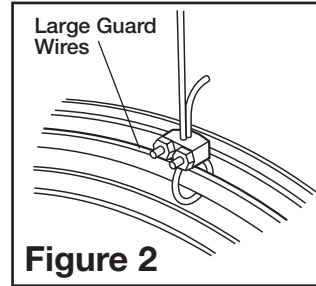

Figure 2
- Loop one end of cable around the large diameter wires of both the front and rear circulator guard (Figure 2).
- Attach a cable clamp with the "u" on the tail side of the loop leaving a tail approximately 1 to 2 inches. Tighten clamp nuts. Make sure no part of the cable interferes with the blade (Figure 2).